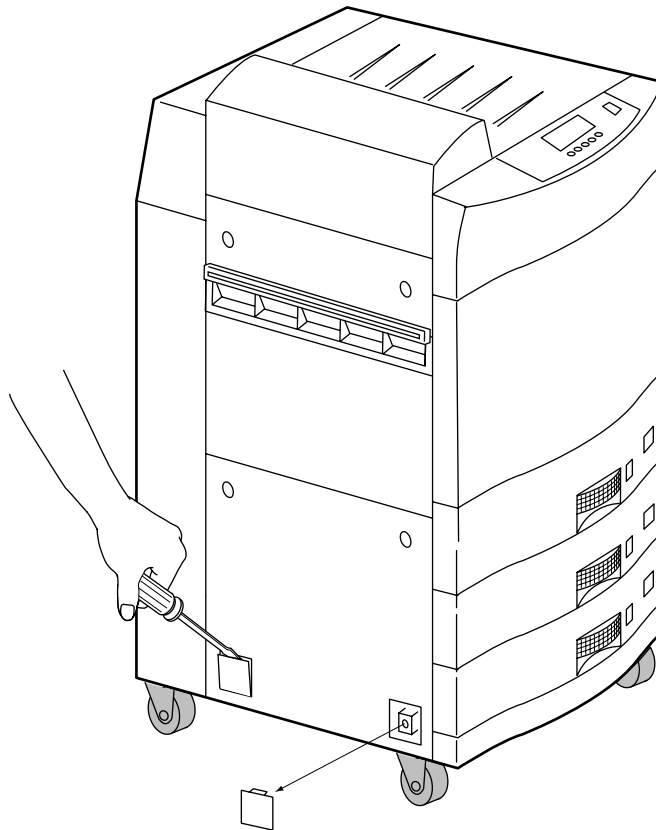

Figure 4-25 Small Panels
2. Use a small flat-bladed screwdriver to pop out the two small panels from the bottom cover as shown in Figure 4-25.